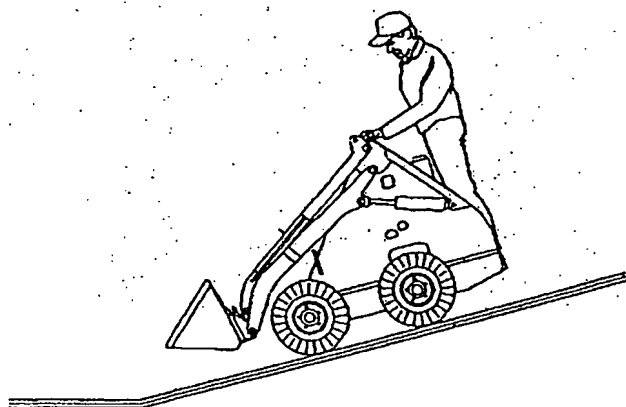
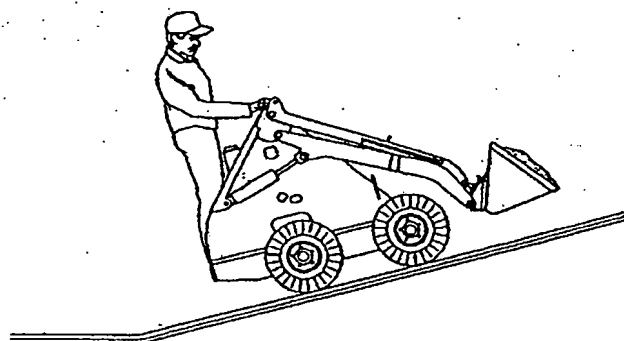

FIGURE 10 - EMPTY BUCKET
FIGURE 11 - FULL BUCKET
5. When driving on slopes keep the heaviest end of the Mini-Skid upward. When driving on a slope with an empty bucket, back up the slope in reverse, and drive down a slope forward as in Figure 10. When driving on a slope with a load, drive up the slope forward and back down the slope in reverse as in Figure 11.